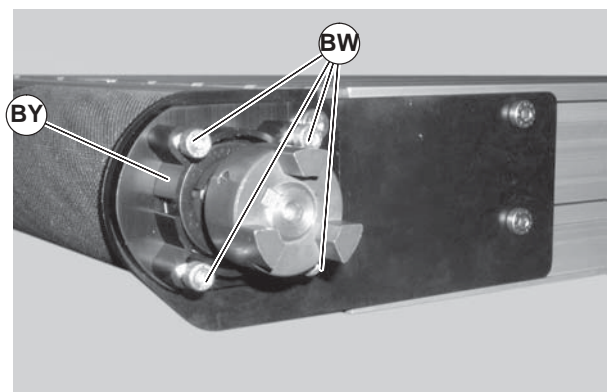

Figure 57
- d. Remove the four (4) lock screws (Figure 57, item BW) and the short side drive guard (BY).